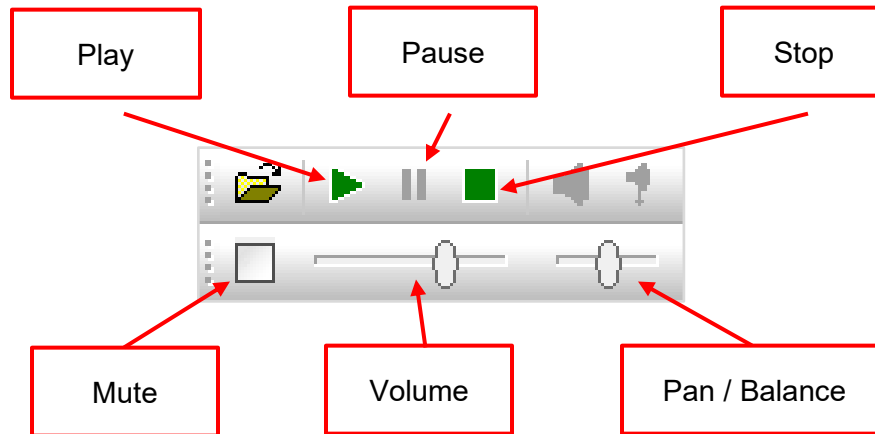

Figure 19 Playback Controls in PGS Audio Player
- (4) Use the various playback controls to review the audio data (see *Figure 19* for playback control definition).